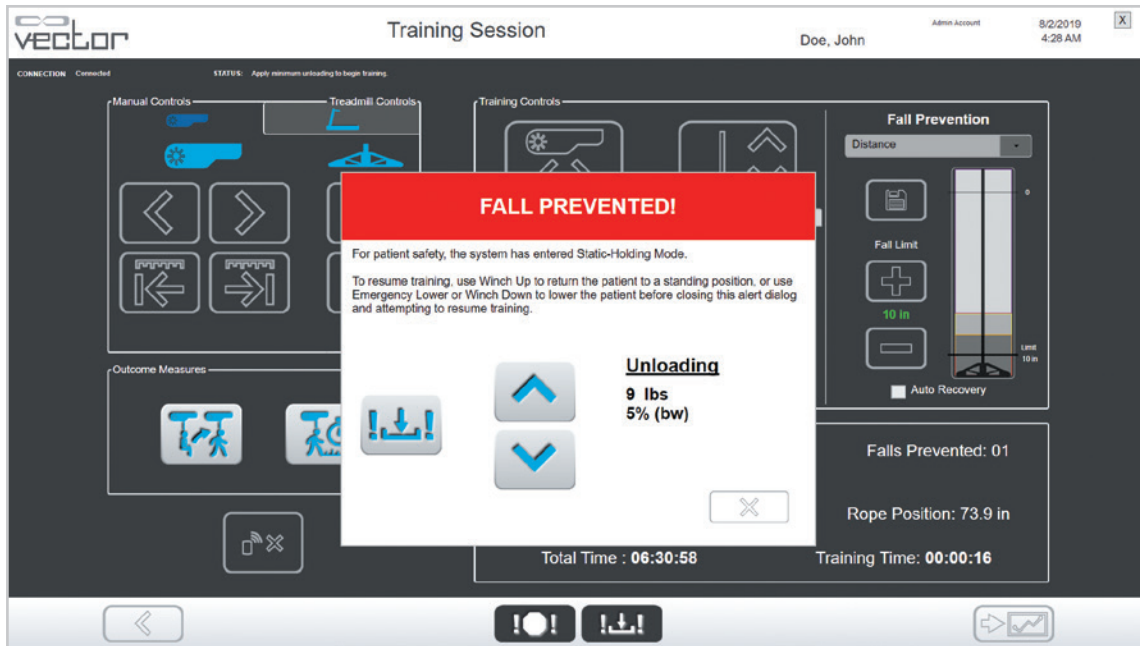

Figure 6-17: Fall Prevented Dialog Box
5. When a fall is detected, the treadmill will stop automatically, and the treadmill controls will be disabled until the Fall Prevented dialog box is closed. See Figure 6-17.